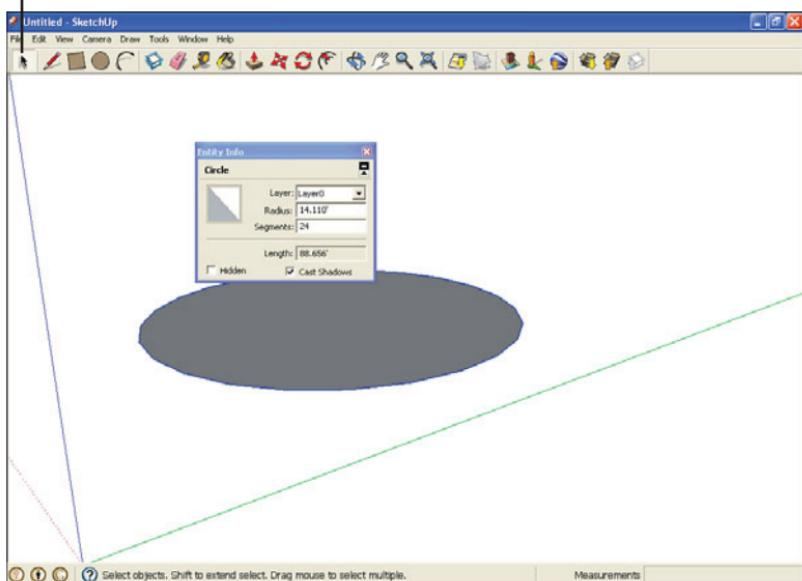

FIGURE 3.11 Getting information about the edge of a shape.
4. To get information about the edge of the shape, click the **Select tool** in the toolbar while the Information dialog box is open, then click the edge of the shape. When you do, the information box changes, showing information about the shape's edge, as shown in Figure 3.11.